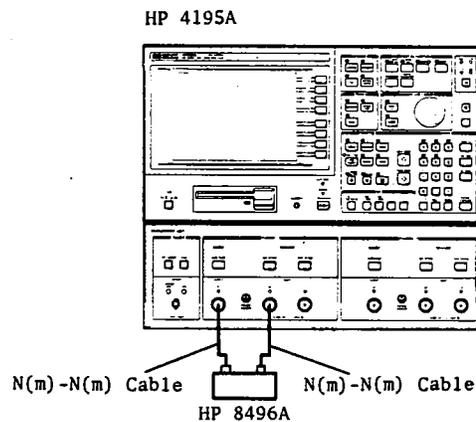

Figure 2-5. Amplitude Measurement Linearity Test Setup
3. Connect the Step Attenuator to the HP 4195A as shown in Figure 2-5, and set the Step Attenuator to 0 dB.